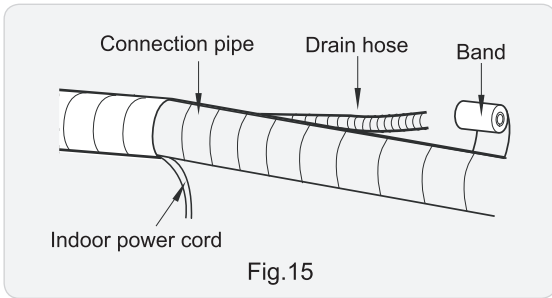

Fig. 15
(2) Reserve a certain length of drain hose and power cord for installation when binding them. When binding to a certain degree, separate the indoor power and then separate the drain hose. (As show in Fig.15)
(3) Bind them evenly.
(4) The liquid pipe and gas pipe should be bound separately at the end.